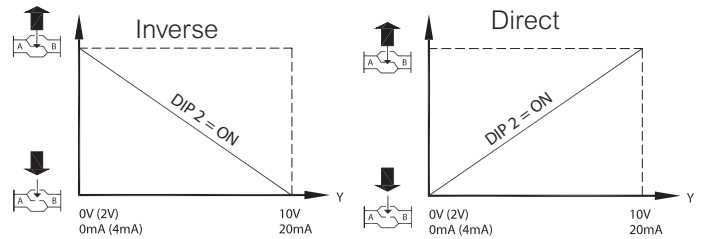

Fig. 2
- **SW2: DIR/INV – Direct or inverse acting (Fig. 2):**